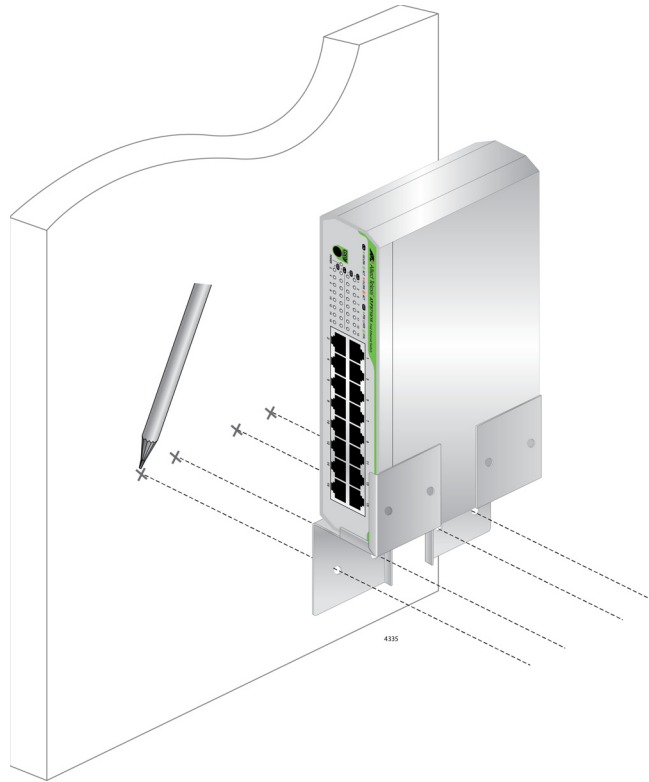

Figure 23. Marking the Screw Hole Locations
4. Have another person hold the switch with the brackets at the wall location where the switch is to be installed. Use a pencil to mark the wall with the locations of the four holes in the brackets. See Figure 23 as an example.